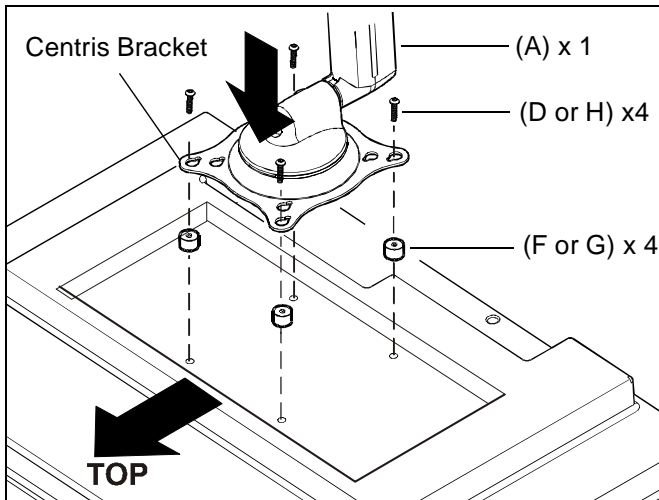

Figure 8
3. Determine depth of recessed mounting holes relative to back surface of display (against which Centris head will contact). (See Figure 8)
4. Select proper length spacer and screw. (See Figure 8)
6. Pick up and orient the mount (A) so that the mounting holes in the Centris bracket are aligned with the holes in the spacers; rotate the bracket as required. (See Figure 8)
7. Using Phillips screwdriver, install four screws (D or H) through the mounting holes in Centris bracket, through the spacers (F or G), and into the display. (See Figure 8)